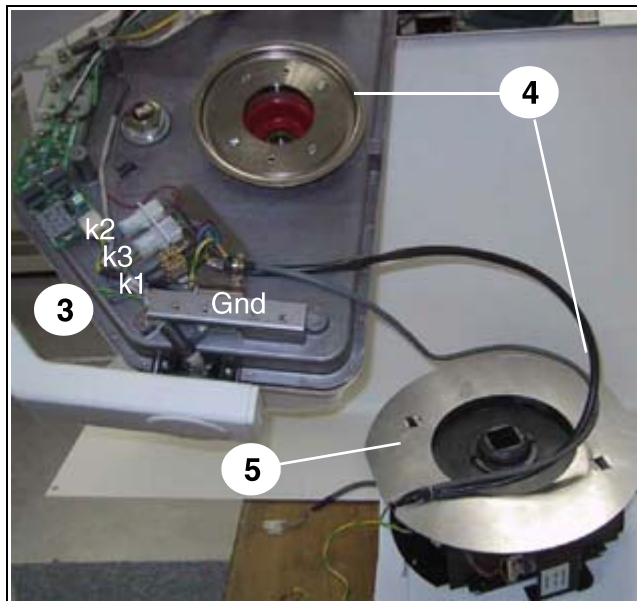

Fig. 91: Collimator cables
- Separate the four connectors k1/k2/k3 and Gnd (3/Fig. 91 / p. 93).
- If necessary, reinstall the deflector plate from the old collimator when replacing the collimator (5/Fig. 91 / p. 93).
- Connect the four connectors (k1/k2/k3 and Gnd) of the new collimator (3/Fig. 91 / p. 93).
- Position the collimator on the flange of the single tank while paying attention to the cable layout (4/Fig. 91 / p. 93).